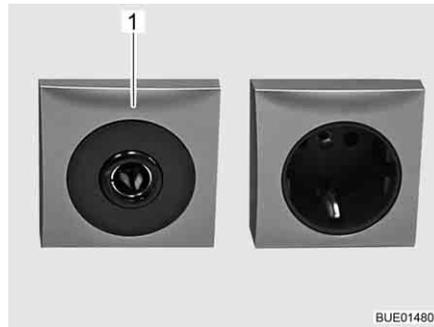

Fig. 131 12 V/10 A socket
- ▷ Only connect devices with a maximum of 10 A to the sockets (Fig. 131,1) of the 12 V power supply.